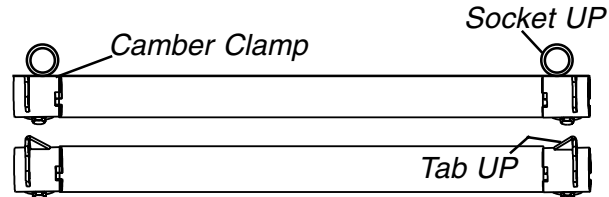

FIGURE 14 - REPOSITIONING THE AXLE TUBE
REPOSITIONING THE AXLE TUBE (FIGURES 14 AND 15)
3. Remove the camber inserts from the wheelchair (FIGURE 14).
NOTE: The camber clamps should now be inverted, as shown in DETAIL "A" of FIGURE 14.
* NOTE: When viewed from the front of the wheelchair, inside of the rear wheels, an inverted camber clamp has the tab or anti-tipper socket at the top of the axle tube. Refer to DETAIL "A" of FIGURE 14.